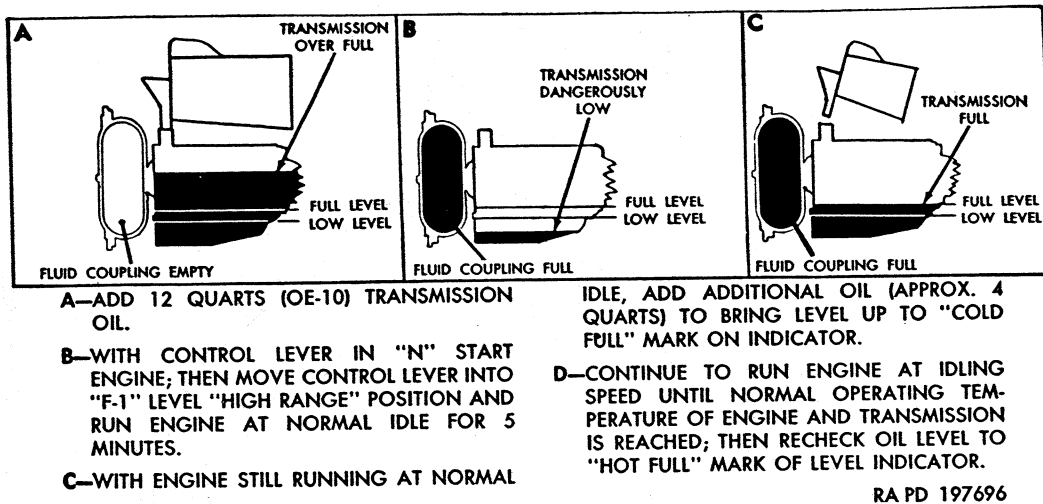

Figure 187. Typical method of filling transmission.
- (1) With transmission and fluid coupling thoroughly drained and drain plugs installed (*d* above), lift floor plate to gain access to transmission oil level indicator and filler cap. Clean all dirt from area around filler cap; then remove filler cap and level indicator.
- (2) Pour 12 quarts of engine lubricating oil (OE-10) into transmission case (A, fig. 187), or when temperature of  $+10^{\circ}$  F. or below is expected, use subzero engine lubricating oil (OES). Be sure container and spout or funnel used to pour oil are clean. Install filler cap and level indicator in transmission oil filler tube.
- (3) With transmission control level in N (neutral) position and parking brake lever applied, start engine. Move control
- lever into F-1 HIGH RANGE position and run engine at idling speed for approximately 5 minutes (B, fig. 187).
- (4) Remove filler cap and level indicator from filler tube; then add sufficient additional oil (approx. 4 qts.) to bring oil level up to COLD FULL mark on indicator (C, fig. 187). Install filler cap and level indicator in oil filler tube.
- (5) Continue to run engine at idling speed until normal operating temperature of engine and transmission is reached; then recheck oil level as described in *b* (2) above to HOT FULL mark on level indicator.